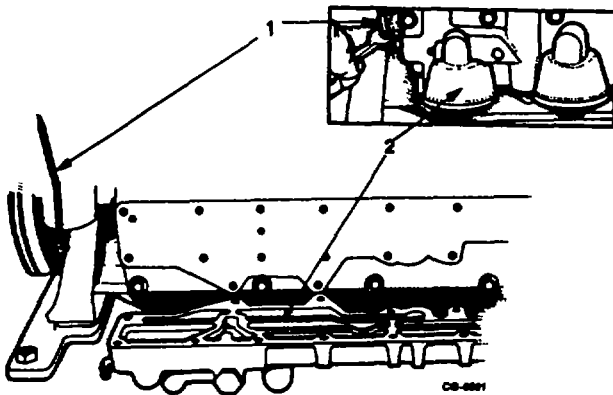

Figure 177. Removing Oil Filter Base
- 5. Disconnect air compressor and injection pump oil line from oil filter base (Figure 177).
- 6. Remove sixteen mounting bolts from oil filter base and remove oil filter base (Figure 177).